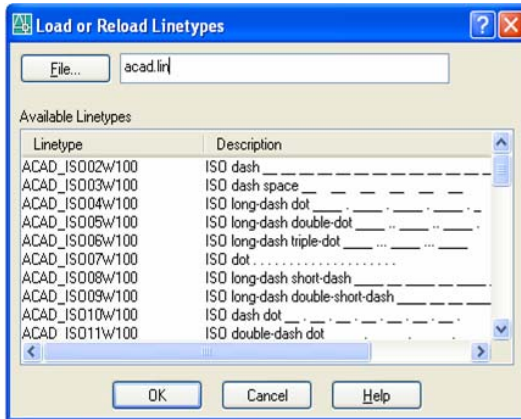

Figure 1-6D: The Load or Reload Linetypes window.
- **Select Linetypes window:** By default, this window lists only one line type (continuous), as shown in *Figure 1-6C*. To add more line types, click the **Load...** button; the **Load or Reload Linetypes** window opens (*Figure 1-6D*); select a line type and click the **OK** button to return to the **Select Linetypes** window, and click the **OK** button to return to the **Layer Properties Manager** window.